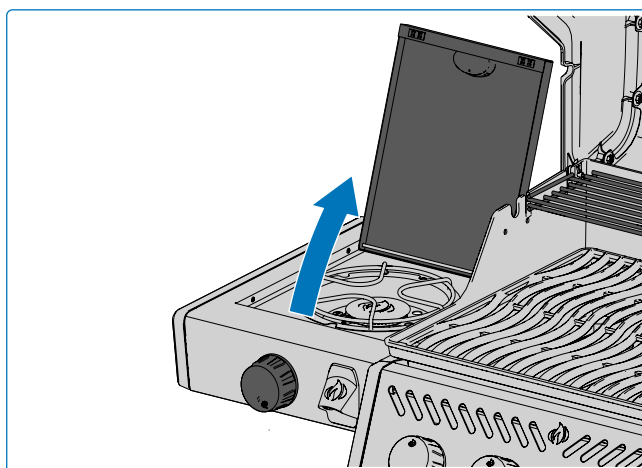

Fig. 9
A leak test confirms no gas is escaping after you connect the hose to the gas supply. Each time the tank is refilled and reinstalled, ensure that there are no leaks in the fitting where the regulator connects to the tank. Leak test this grill before use, annually, and when any gas components are replaced (**Fig 9**).
1. Open burner cover. **(Fig. 9).**